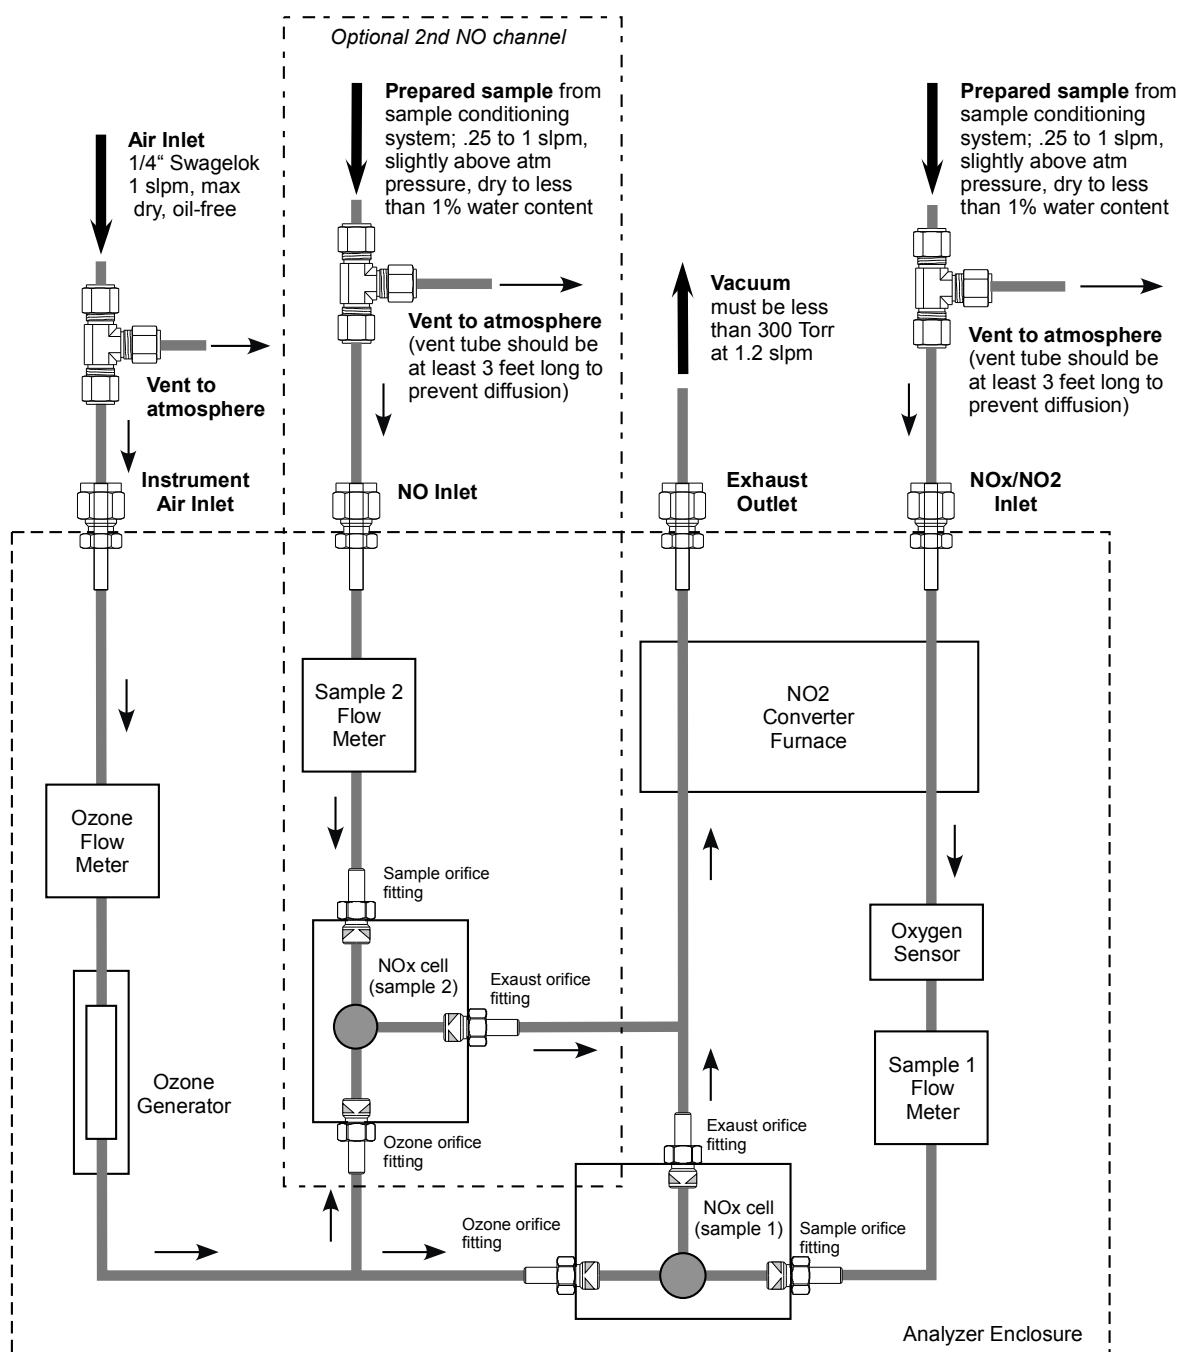

Figure 1 Functional pneumatics diagram
| Figure 1 Functional pneumatics diagram | 12 |
Although the chemiluminescence technique is extraordinarily sensitive, specific to NO_x , and inherently linear, there are many subtle effects involving pressures, flows, cell geometry, etc. that must be carefully engineered to produce a properly functioning analyzer. The pneumatic design of the Model CL3020 is shown in figure 1; the flow scheme is substantially different than other gas analyzers. To properly operate and service the analyzer, it is important that the flow scheme be well-understood.
- a. Instrument air: 1 SLPM of dry, oil-free air, vented to ambient conditions. The instrument draws approximately 0.2 SLPM of air per NO_x channel, and a sufficient excess should be supplied to the analyzer to ensure the analyzer only pulls instrument air, not ambient air, from the vented connection (see figure 1).
- b. Sample #1 (NO_x): 0.2 SLPM of sample from a sample manifold vented to atmospheric pressure. The instrument draws approximately 60 SCCM of sample per NO_x channel, and a sufficient excess should be supplied to the analyzer to ensure the analyzer only pulls sample gas, not ambient air from the vented connection (see figure 1).
- c. Sample #2 (NO), if equipped: 0.2 SLPM of sample from a sample manifold vented to atmospheric pressure. The instrument draws approximately 70 SCCM of sample per NO_x channel, and a sufficient excess should be supplied to the analyzer to ensure the analyzer only pulls sample gas, not ambient air from the vented connection (see figure 1)